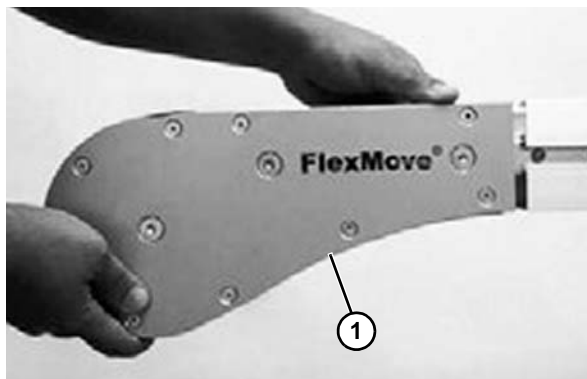

Figure 27
1. Insert the idler unit (Figure 27, item 1) connecting strips into the T-slots of the beam end and tighten it.